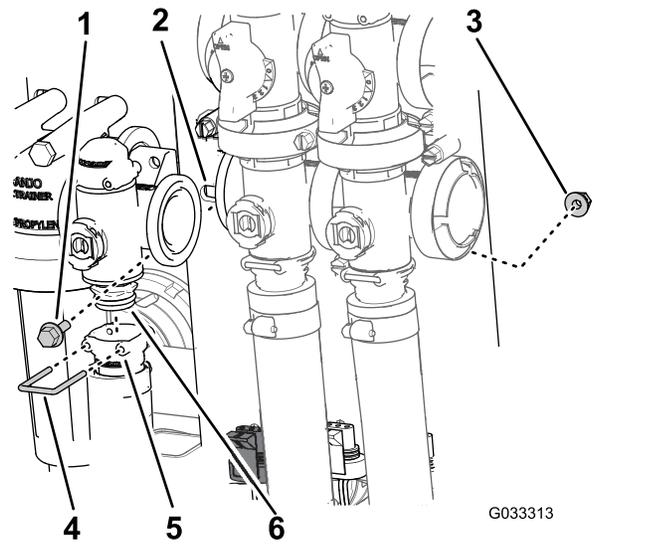

Figure 63
2. Remove the retainer that secures the outlet fitting to the manifold for the rate-control valve (Figure 63).
3. Remove the 2 flanged-head bolts and 2 flanged locknuts that secures the rate-control valve to the valve mount and remove the valve manifold from the machine (Figure 63).